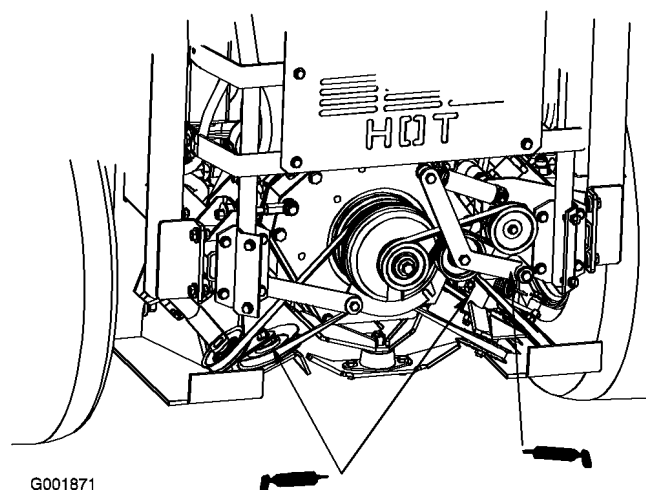

Figure 32
1. Grease the cooling fan belt idler arm (Figure 32).
2. Grease the drive belt idler arms (Figure 32).